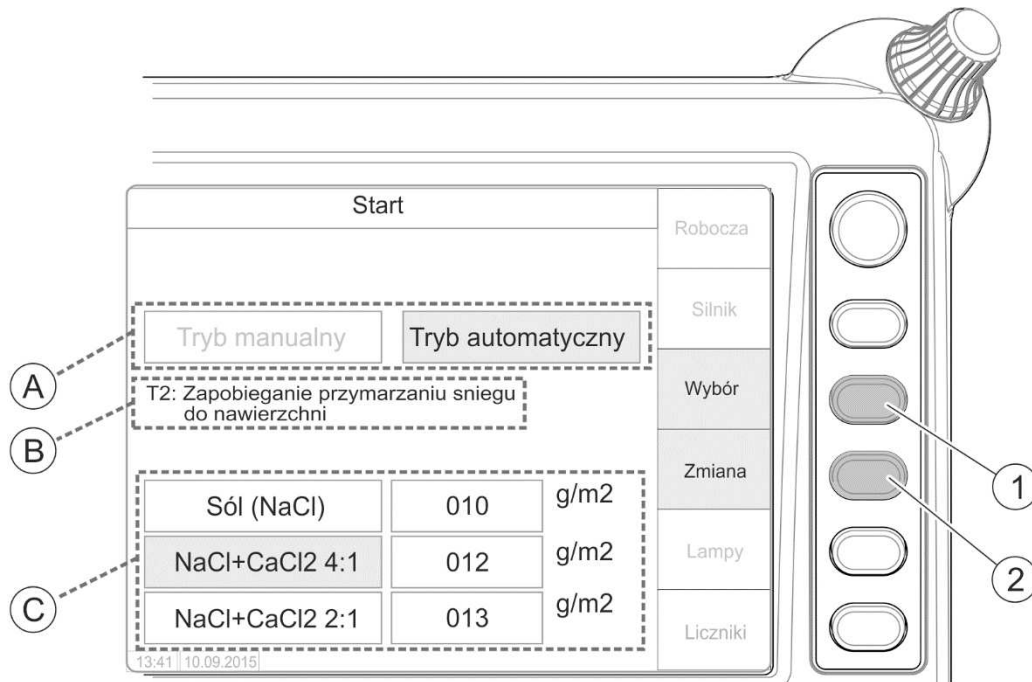

FIGURE 4.26 Selection of automatic mode (option)
- mark working mode type selection field (A) on „Start” home page of the control panel (FIGURE 4.26)by means of push-button (1),
- select "Automatic mode" by means of push-button (2) "Change" in field (A),
- select one of the three defined modes T1,T2,T3 by means of push-button (1) "Selection" in field (B),
- by means of push-button (1), mark field (C) and then, by means of push-button (2) „Change”, select (C) type of material to be spread that is currently in the tank (automatic mode can not be selected for „Sand”).